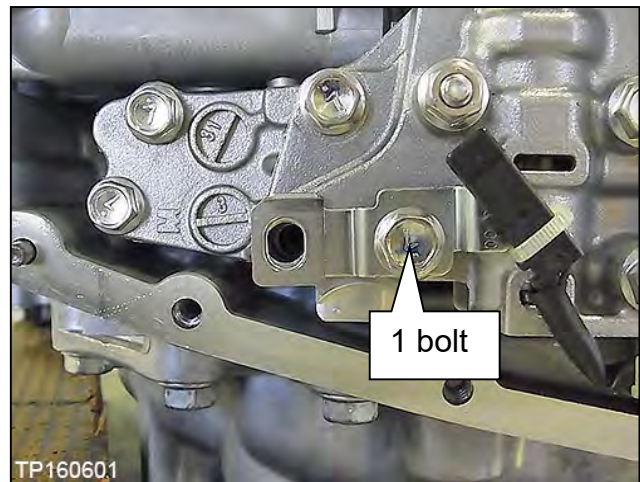

Figure 147
117. Install the CVT fluid temperature sensor bracket to the valve body with one (1) bolt (Figure 147).
**NOTE:** Leave one (1) bolt hole blank as it will be used to secure the oil strainer at a later step.